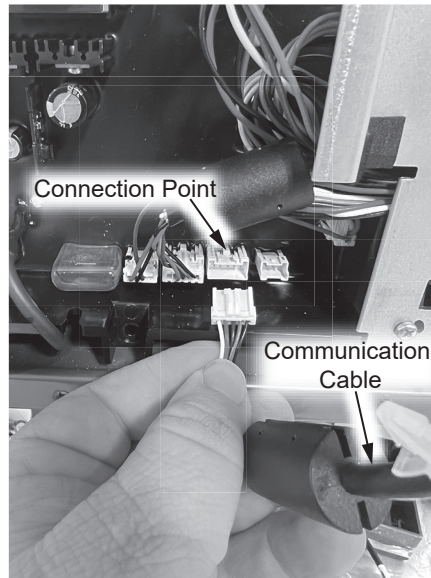

Figure 6 - Connecting the communication cable to the control board.
- 12** Using Figure 6 as reference connect the communication cable to the control board panel.